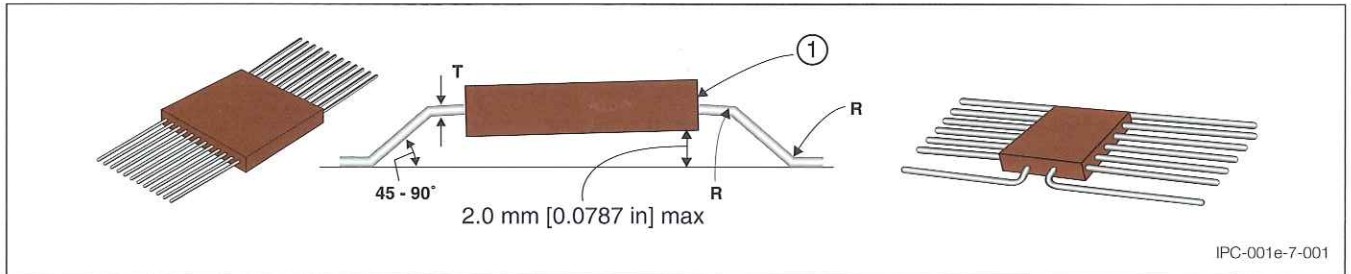

Figure 7-1 Surface Mount Device Lead Forming
7.1 Surface Mount Device Lead Forming Leads shall [D1D2D3] be formed in such a manner that the lead-to-body seal is not damaged or degraded (see Figures 7-1 and 7-2). When lead forming is required during the assembly process leads shall [D1D2D3] be formed such that there is an available minimum lead length for contact to the solder land as shown in Table 7-1.
7.1.2 Flat Pack Parallelism Leads on opposite sides of surface mounted flatpacks should be formed such that the nonparallelism between the base surface of the component and the surface of the printed board (i.e., component cant) is minimal. Component tilt is permissible; however, the final configuration should not exceed the clearance limit of 2.0 mm [0.0787 in] (see Figure 7-1).